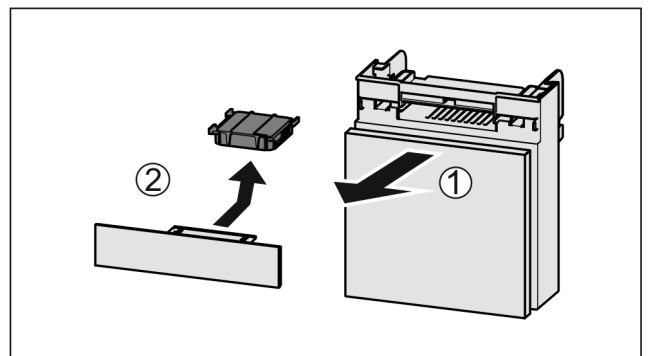

Fig. 80
- Pull out the compartment Fig. 80 (1).
- Remove the carbon filter Fig. 80 (2).